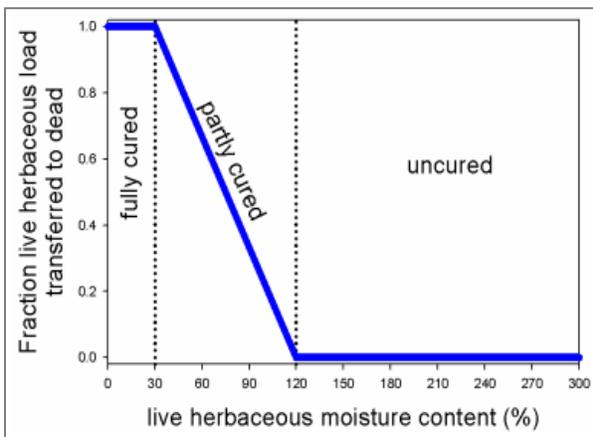

Figure 41. Herbaceous fuel load transfer
- In the first graph (Figure 41), between 30% and 120%, herbaceous fuel moisture transfers fractional live fuel loads to dead and uses the lower dead fuel moisture for that load. Herbaceous fuel moisture above 120% usually limits fire spread in dynamic fuels.